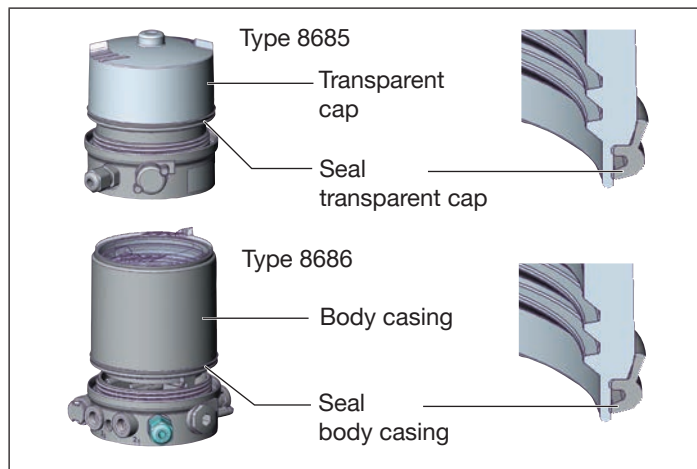

Fig. 28: Position of the seal in the transparent cap / body casing
- Check that the seal is correctly positioned in the transparent cap / body casing (see “Fig. 28”).